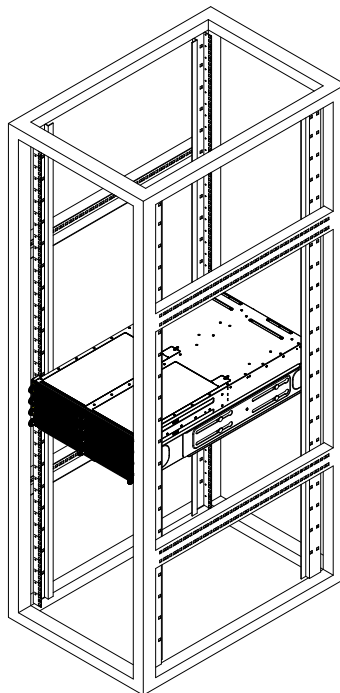

Figure 2-3. Installing the Server into a Rack
2. Slide the chassis rails into the rack rails, keeping the pressure even on both sides (you may have to press the locking tabs when inserting). See Figure 2-3.